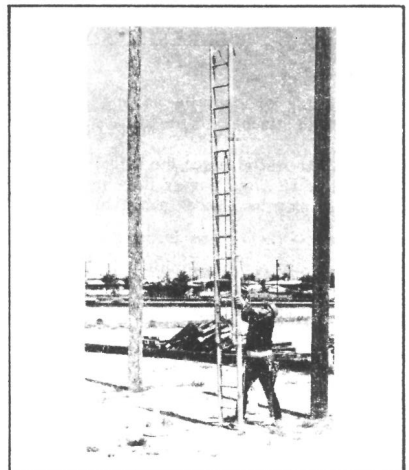

FIGURE 7.
**4.07** When raising or lowering the top section of an extension ladder, keep hands and feet off the rungs. When the top section is being lowered, stand clear so that it will not strike the feet. See Figure 7.